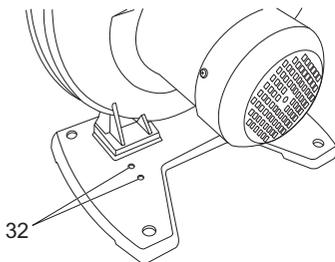

Fig. 9
- > Put the additional support (26) on the base (9), and align four holes to the holes (32) on the base, then put the flat washers M5 (33) and screws M5 x 20mm (34), then tighten them with the screwdriver. (Fig. 9 & 10)